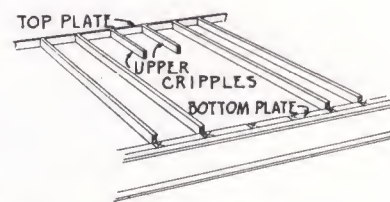

FIGURE 26
- (g) In framing the window openings, refer to the **Framing Elevations** on plans making sure that the correct lengths are used for the upper and lower Cripples. Place the upper Cripples against the top plate where indicated by the marking on the plate and nail with 16-penny nails in the same manner as the studs were nailed (see Fig. 26).